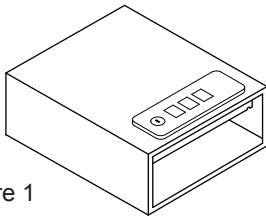

Figure 1
**NOTE ON LOCKING THE SAFE:** The safe needs to be in an upright position, as shown in figure 1, for the locking mechanism to function properly. Failure to mount the safe in the correct upright position will compromise the safety and security of the safe